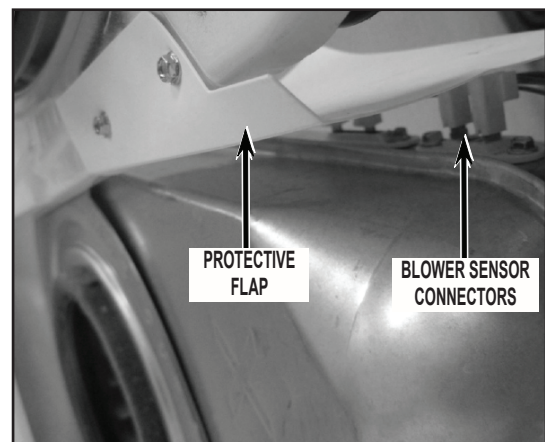

FIGURE 36
- At the bottom of the front bulkhead is a lower protective flap. Verify flap is laying above the blower sensor connectors as shown in *Figure 36*.